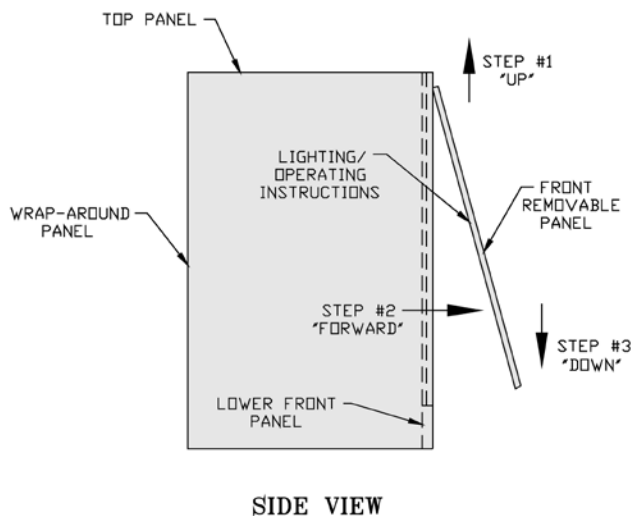

Figure 3: Jacket Front Panel Removal
B. Instructions to place boiler in operation and to turn off boiler are shown on the Lighting or Operating Instruction label posted on the inside of the front removable door. See Figure 3 for front door removal instructions. The Lighting/Operating Instructions are also shown in Figures 4 and 5.
2. Remove front removable panel. See Figure 3.